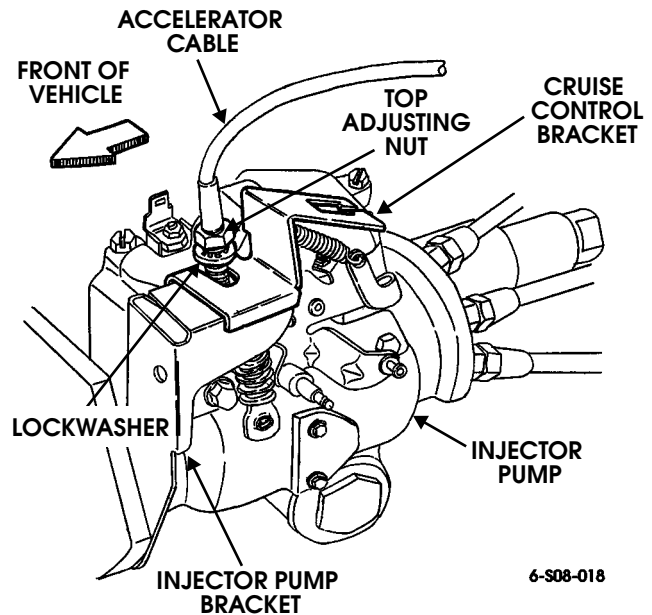

Figure 13-67: Cruise Control Bracket
5. Route actuator/cruise control cable to the top of the engine and secure cable to cruise control bracket on injector pump with adjusting nuts (Figure 13-67).
4. Loosen actuator/cruise control cable adjusting nuts and position cable in cruise control bracket with one adjusting nut and lockwasher on either side of bracket (Figure 13-67).